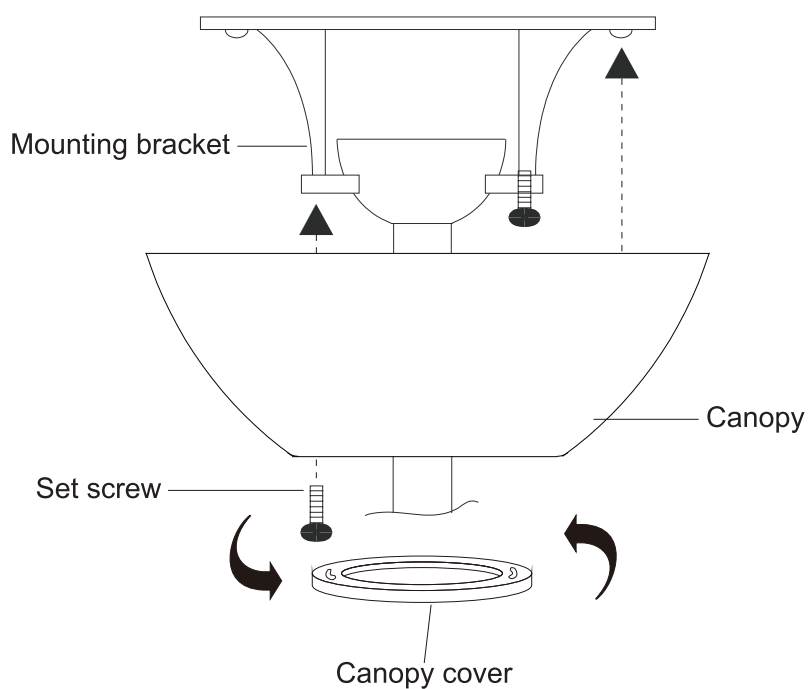

FIG. 11
- Step 2. Carefully raise the canopy up to the mounting bracket, and ensure the loosened screw is inserted into the key hole on the canopy. Rotate the canopy clockwise. (Fig. 11)
- Step 3. Secure the canopy by replacing the screw previously removed and tightening the screw previously loosened. (Fig. 11)
- Step 4. Place the canopy cover on the canopy, and rotate the canopy cover clockwise until it locks into position. (Fig. 11)